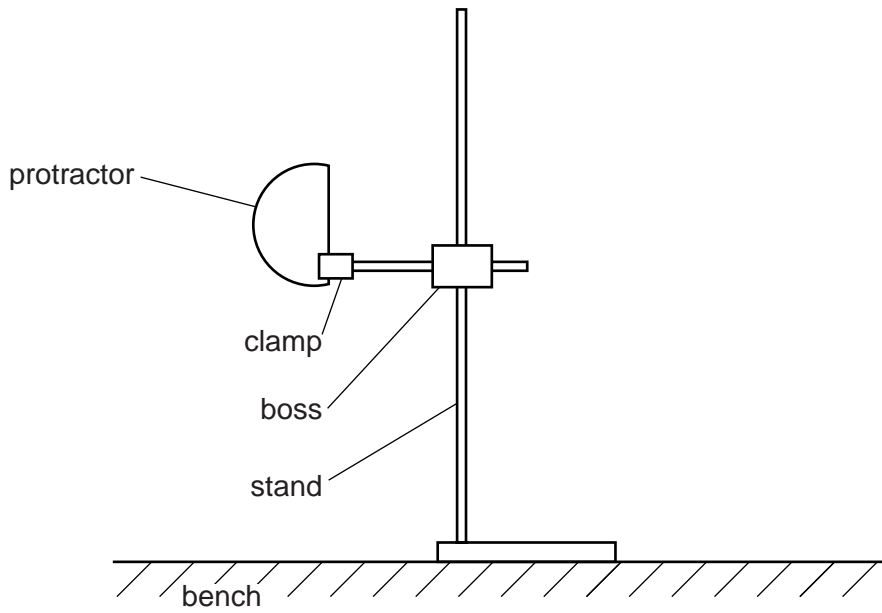

Fig. 2.2
- (c) Use the stand, boss and clamp to support the protractor as shown in Fig. 2.2.